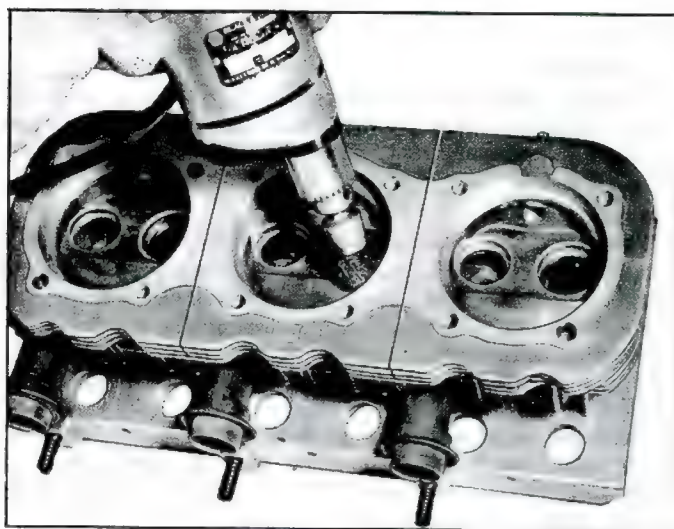

Fig. 80—Removing Carburetor from Combustion Chamber
1. Clean carbon from combustion chambers and ports using Tool J-8358 (fig. 80).